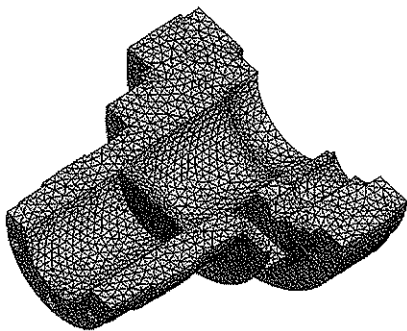

Figure 7-93 Mesh generated with the specified settings
11. Accept all other default options in the **Details of "Mesh"** window and then choose the **Update** button from the **Mesh** contextual toolbar; the mesh for the model is created, as shown in Figure 7-93.